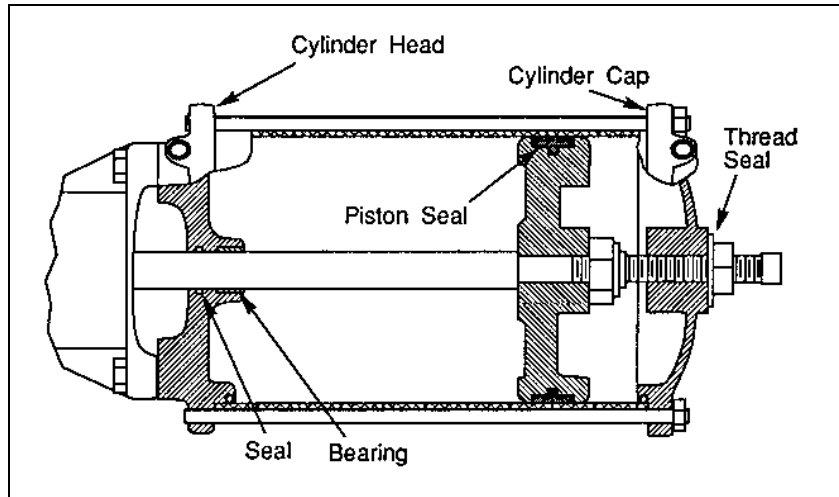

Figure 2—Cylinder Parts Location
2. Carefully slide the cylinder head over the piston rod until it contacts the actuator housing. Fasten the cylinder head to the housing with the four screws removed earlier. See Figure 2.